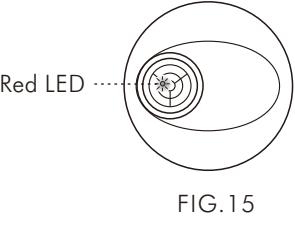

FIG.15
- There is a built-in red LED as an indicator for infrared signal reception and test mode status (See FIG.15).